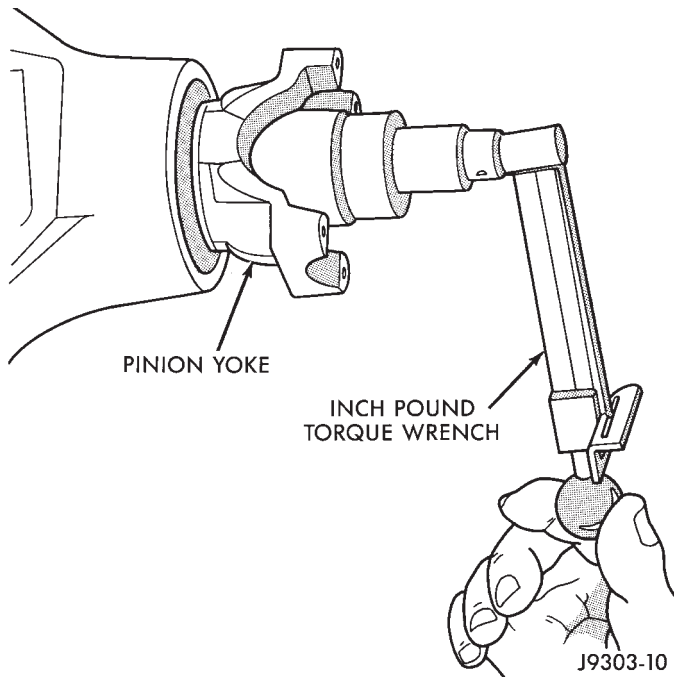

Fig. 56 Check Pinion Gear Torque
(11) Check bearing rotating torque with an inch pound torque wrench (Fig. 56). The torque necessary to rotate the pinion gear should be;